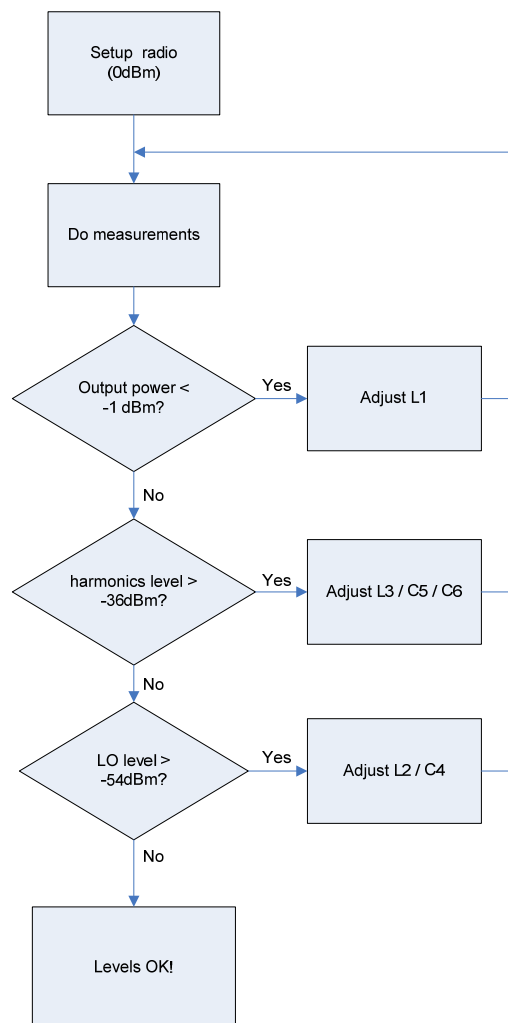

Figure 2- Measurement flow chart
Follow the flow chart in Figure 2. Adjust the components if the wanted performance is not reached. Adjustments of one component will affect the performance for all parameters. For instance if the output power is too low, and the value of L1 is increased, the harmonic or the LO level might be too high. It is an iterative process. Never change more than one component at a time; else it will be impossible to see the effects of each component. Too low output power and a too high 2nd harmonic are the most common problems. A small increase in L1 normally gives a higher output power and an increase of C6 will decrease the 2nd harmonic. But a too high value of C6 will also affect the output power level.
- Follow the flowchart in Figure 2.